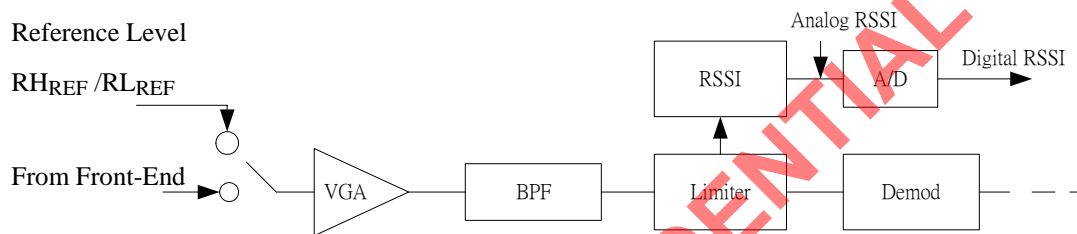

Fig.5 Basic RSSI circuit block diagram
A simplified block diagram of RSSI circuit is shown in Fig.5. A7121 has two built-in signal sources RH_{REF} and RL_{REF} , which are reference level for RSSI slope calibration. The RH_{REF} is 6dB greater than the RL_{REF} . When chip do RSSI slope calibration, the VGA gain must be set to 0dB and the input of VGA will be switched automatically to internal source RH_{REF} or RL_{REF} . The RSSI slope calibration can be enabled by set $RHC=1$ ($RLC=1$) in **calibration control register (I)**. The RSSI slope calibration should be done in chip initialization, if the function of CD (carrier detector) is used.